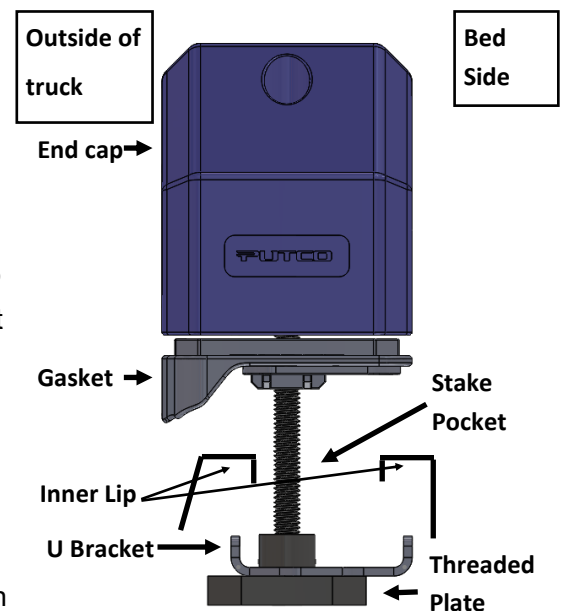

Figure 4: Ford end cap assembly (rear, driver's side)
- 5b. **Ford:** Loosely assemble rear end cap as shown in **Figure 4**. The U bracket hole should be offset towards the outside of the bed. Insert the assembly at about a 45° angle. Pull straight up on the assembly so U bracket maintains contact and correct positioning. Tighten 5/16" bolt. **IMPORTANT: U-bracket flanges must rest on inner lip of stake pocket for secure installation!**